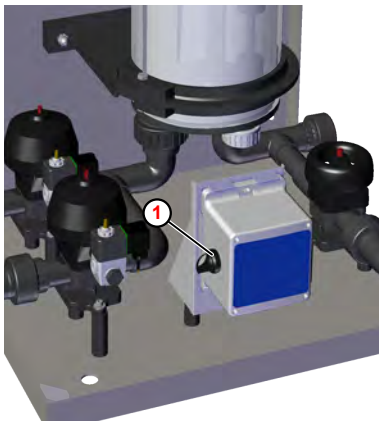

Fig. 15: Switch on
- ➔ Turn master switch Fig. 15, ① off.